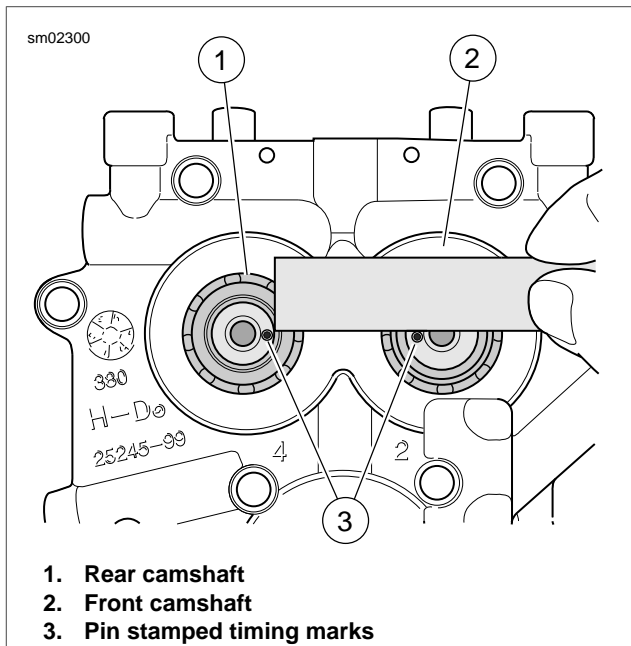

Figure 3-65. Verify Alignment of Punch Marks
3. See Figure 3-65. Using a straightedge, verify that the timing marks on the ends of the front and rear camshafts are in alignment. If necessary, rotate camshafts in order to make this observation.